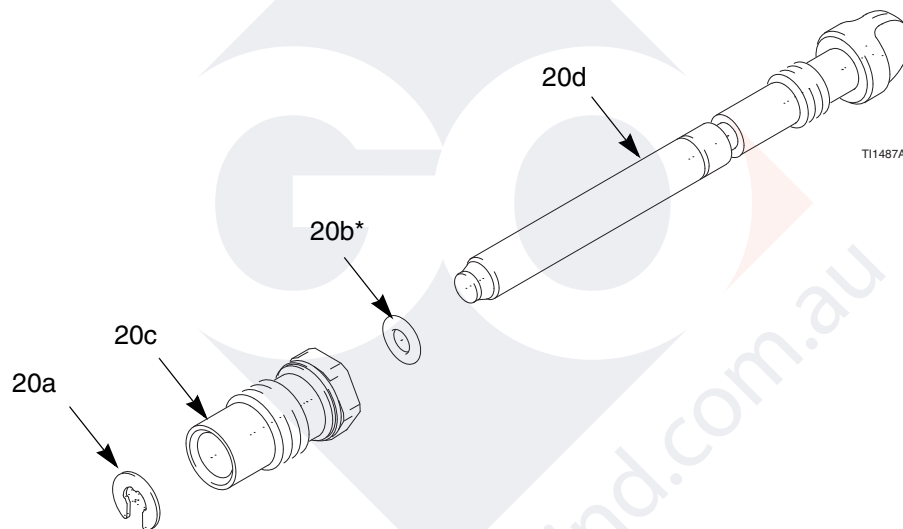

Fig. 19. Fan Air Adjustment Valve
3. Remove the retaining ring (20a). See FIG. 19..